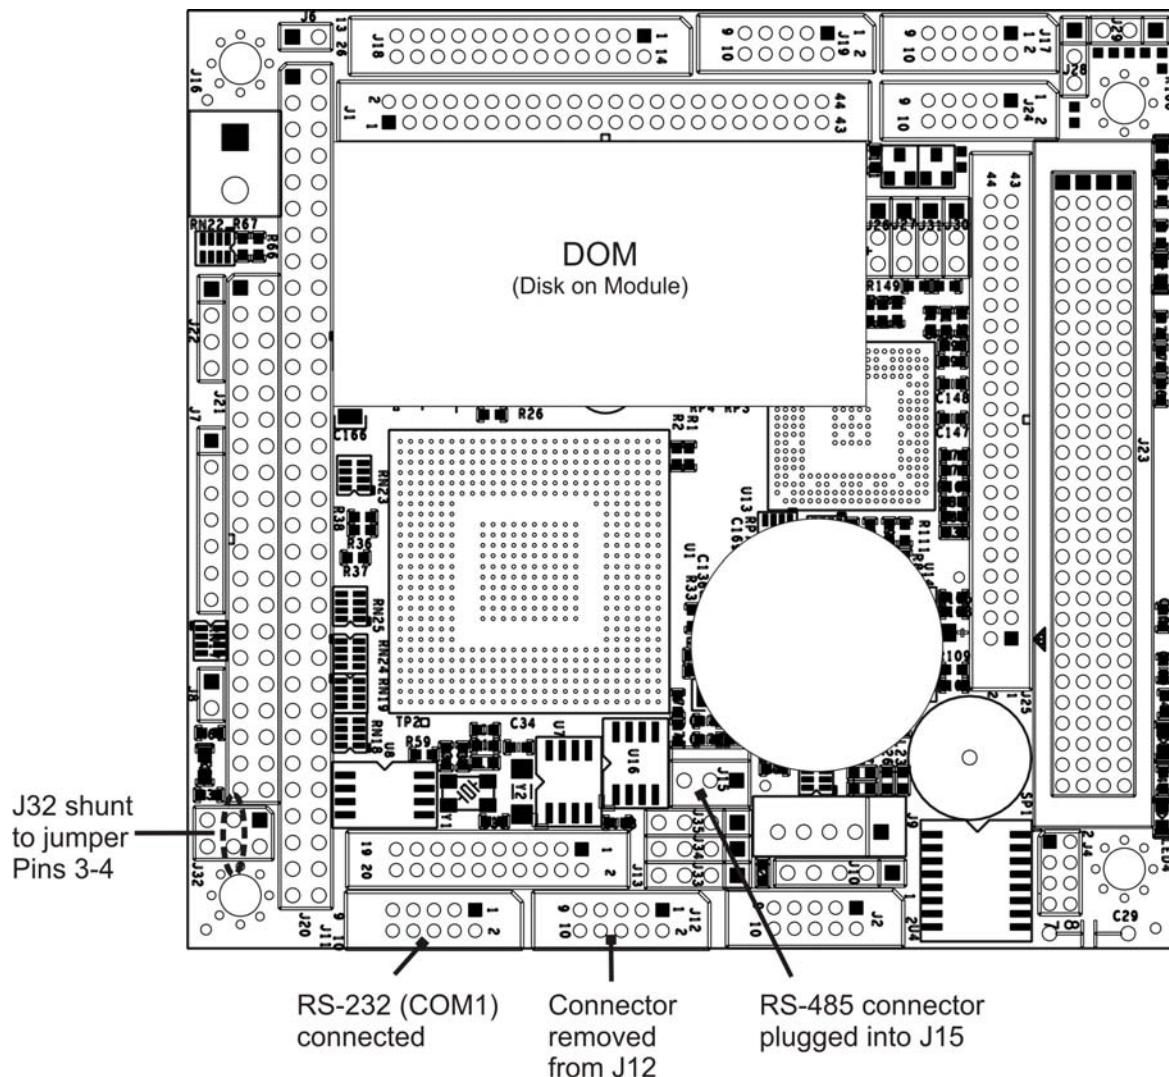

Figure 6-9. CPU card Locations of RS-232/486 Switches, Connectors and Jumpers
- To reconfigure COM 2 as an RS-485 port set switch 6 of SW1 to the ON position (see Figure 6-9).
- The RS-485 port can be configured with or without a 150Ω termination resistor. To include the resistor, install jumper at position JP3 on the CPU board (see Figure 6-9). To configure COM2 as an un-terminated RS-485 port leave JP3 open.
The RS-232 Multidrop consists of a printed circuit assembly that plugs onto the CN3, CN4, and CN5 connectors of the CPU card (see Figure 6-9) and the cabling to connect it to the analyzer's motherboard. This PCA includes all circuitry required to enable your analyzer for Multidrop operation. It converts the instrument's COM1 port to Multidrop configuration allowing up to eight analyzers to be connected the same I/O port of the host computer.